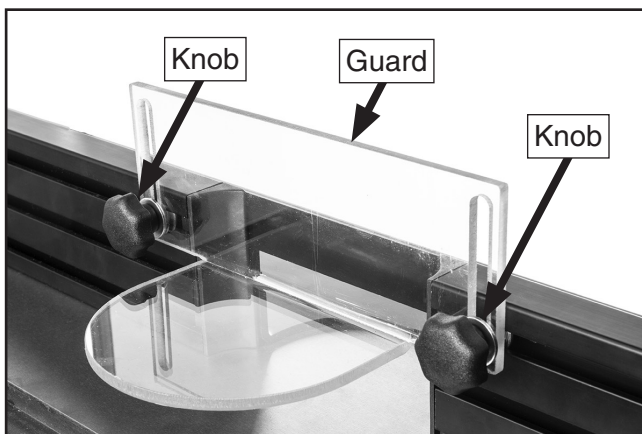

Figure 28. Router bit guard secured to fence with plastic knobs.
22. Attach router bit guard (see **Figure 28**) to carriage bolts in fence with (2) $\frac{1}{4}$ "-20 plastic knobs.